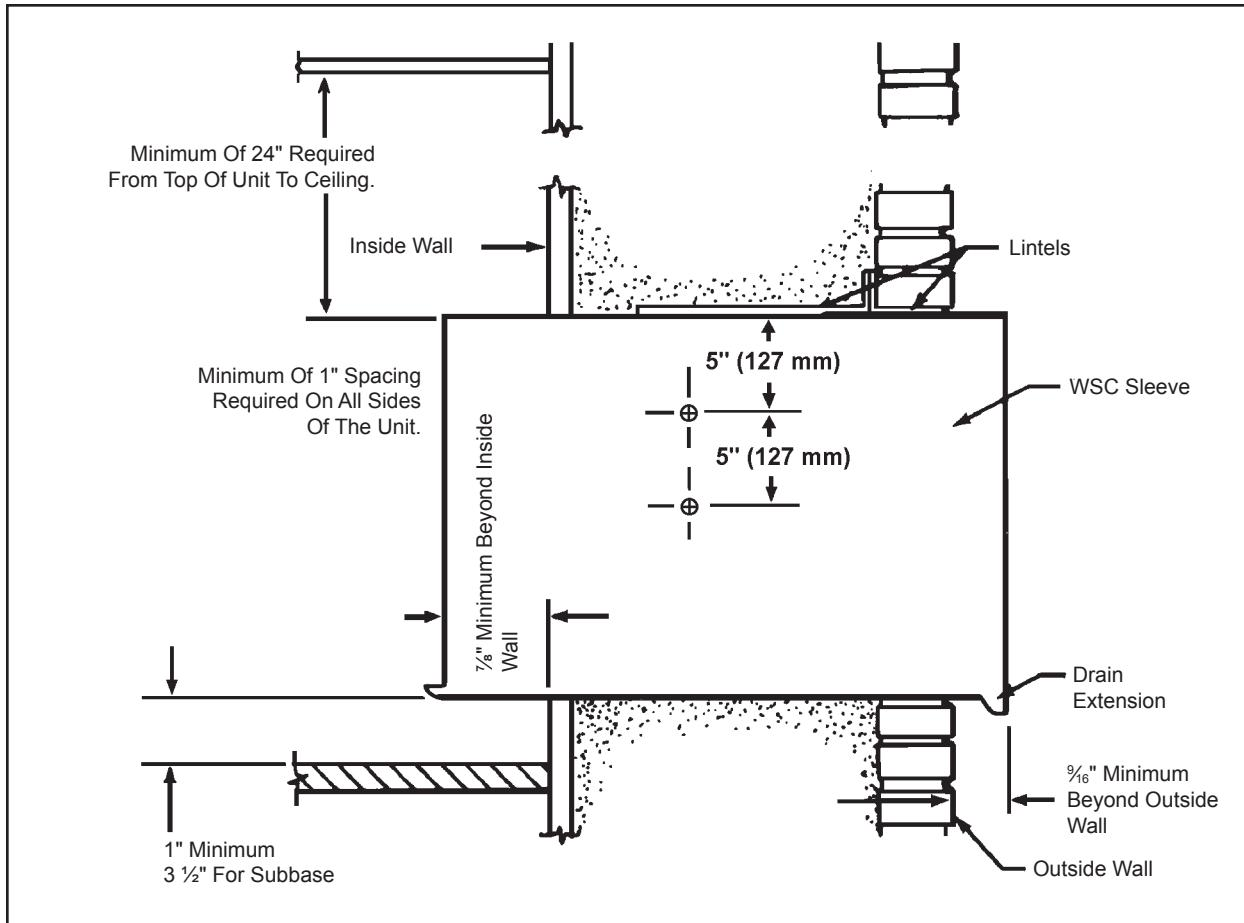

Figure 7
- STEP 1** The WSC SLEEVE should be positioned so that the DRAIN EXTENSION extends a minimum of $\frac{1}{16}$ " beyond the OUTSIDE WALL (See Figure 7).
- STEP 1** After unpacking the WSC SLEEVE from the carton, remove the corrugated FRONT PANEL. Place the WSC SLEEVE in the wall opening following the instructions given in the INSTALLATION REQUIREMENTS. Attach the SLEEVE to the INSIDE WALL by driving two #12A x 2" screws in each side of the SLEEVE (see Figure 7). Shim at the top of the SLEEVE, midway between the sides. Drive one #12A x 2" screw in the top of the sleeve, close to the shim. Install screws from inside the SLEEVE. If the wall opening is not framed with wood, use expansion anchor bolts or molly (toggle) bolts (not provided).